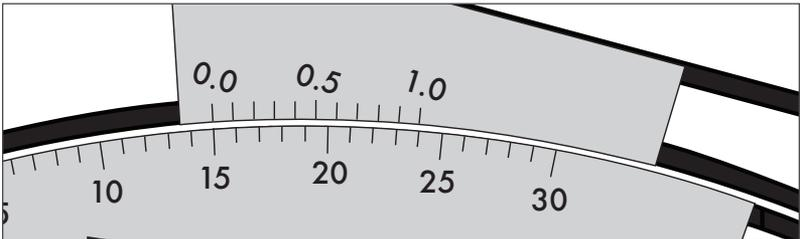

Figure 2
15.0 degrees: Align the 0.0 mark on the vernier scale above the 15 degree mark on the degree scale. Since there are no one-tenth degree increments required no additional adjustment is needed. (*Figure 2*)